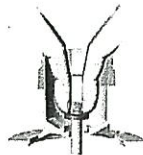

Figure 17 - Press In Seal
5. With thumb pressure, press ceramic seal half firmly and squarely into seal cavity. Polished face of ceramic seat is up. If seal will not seat correctly, remove, placing seal face up on bench. Reclean cavity. Seal should now seat correctly (See Figure 17).